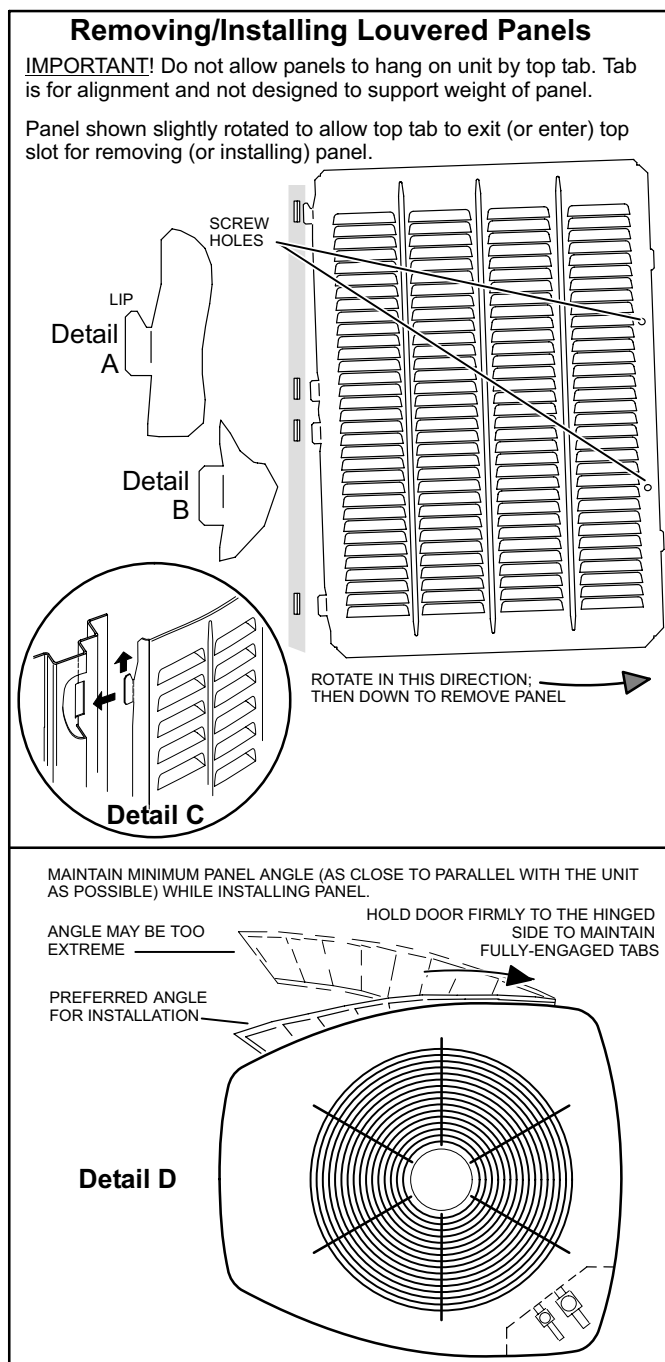

FIGURE 2
1. Remove 2 screws, allowing the panel to swing open slightly (see figure 2).
2. Hold the panel firmly throughout this procedure. Rotate bottom corner of panel away from hinge corner post until lower 3 tabs clear the slots (see figure 2, Detail B).
3. Move panel down until lip of upper tab clears the top slot in corner post (see figure 2, Detail A).
**Position and Install Panel**—Position the panel almost parallel with the unit (figure 2, Detail D) with the “screw side” as close to the unit as possible. Then, in a continuous motion: Slightly rotate and guide the lip of top tab inward (figure 2, Details A and C); then upward into the top slot of the hinge corner post.